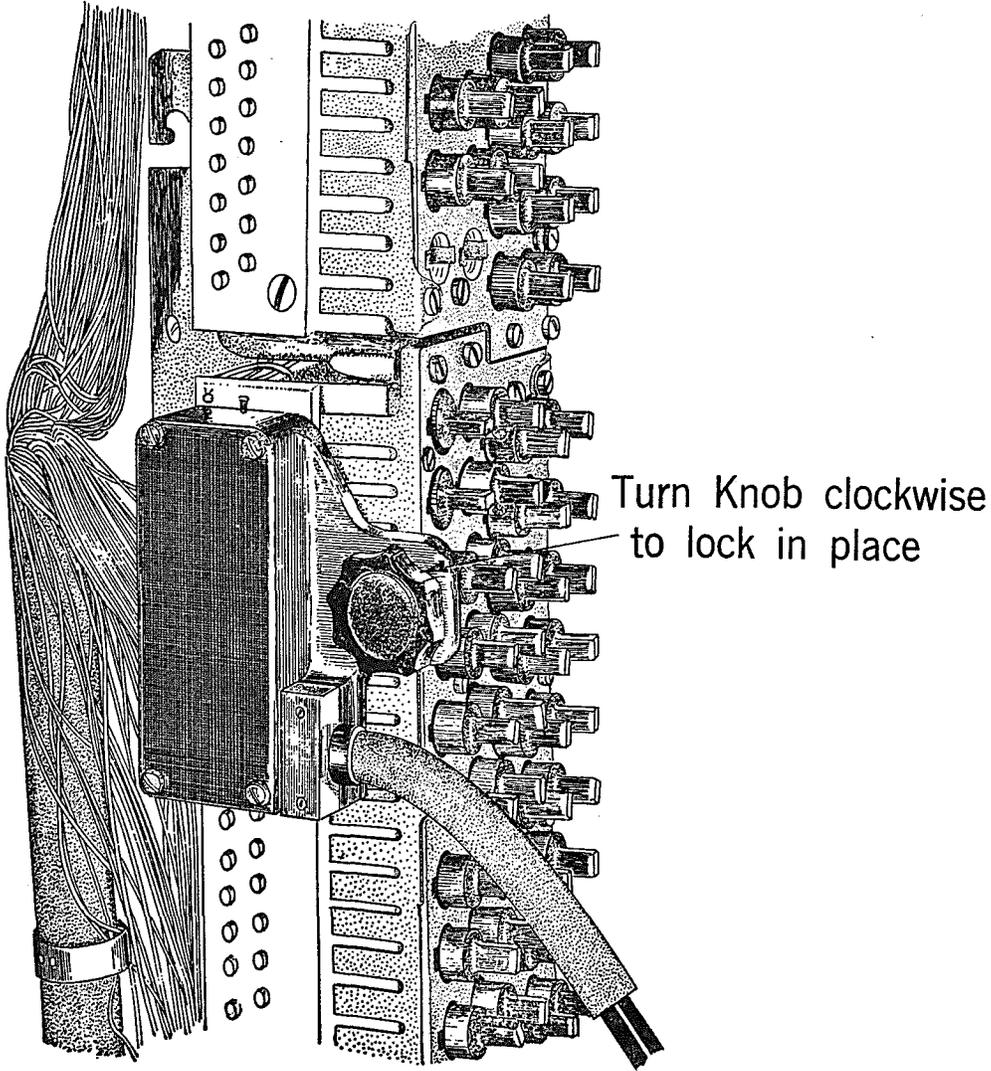

Fig. 3
2.03 The method of attaching a B Test Cord to a 300 Connector (or 121 Protector) is shown in Fig. 3. As the plungers at either end of a B Test Cord are small and displaced with